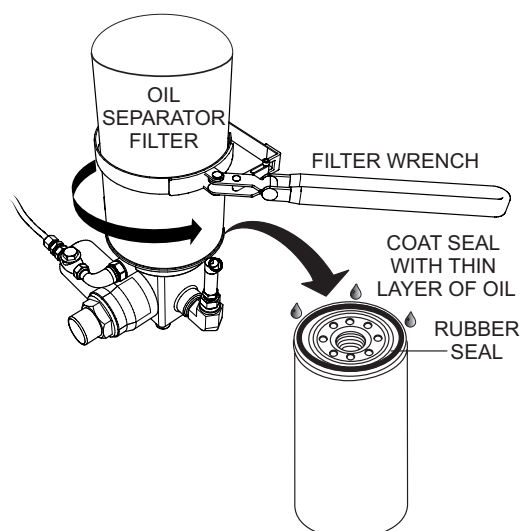

Figure 66. Air Separator Oil Filter
1. Using a filter wrench, turn the oil separator filter cartridge (Figure 66) counterclockwise to remove.
3. Coat the seal on the new oil separator filter cartridge with clean engine oil (Figure 66).